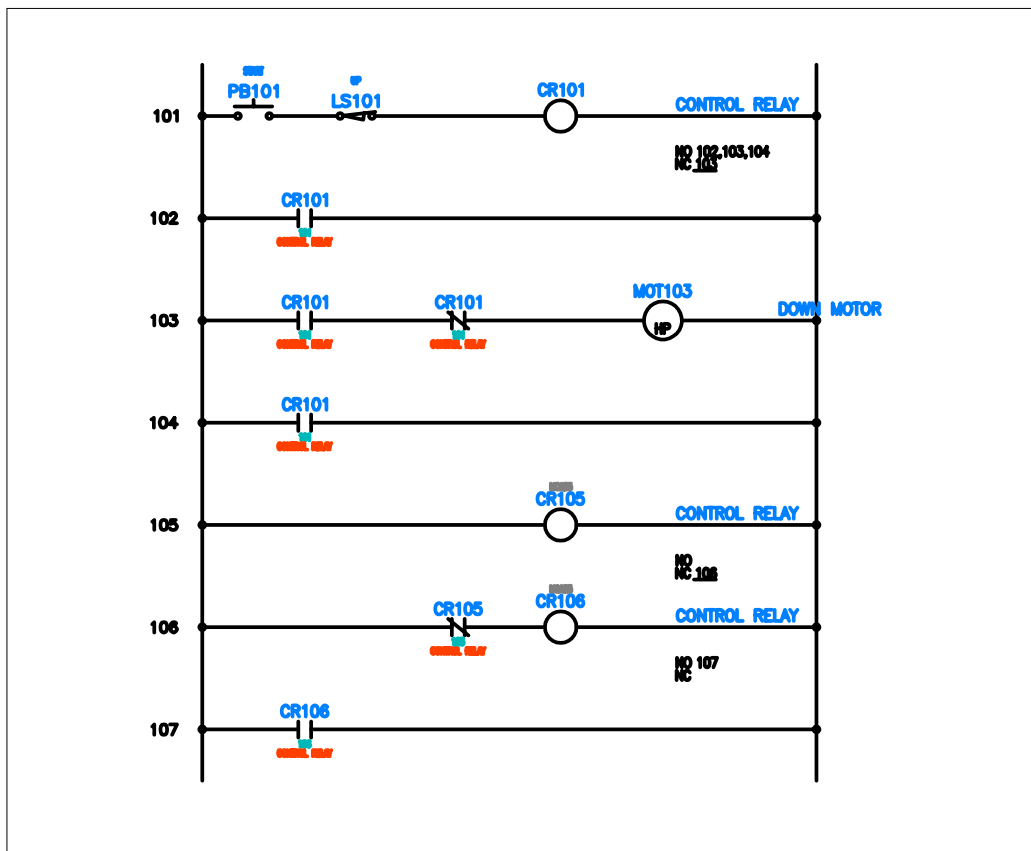

Figure 6-58 The updated drawing
- Choose the **Skip** button from the **Update Related Components?** message box; the location codes are assigned to the selected components. If the **QSAVE** message box is displayed, choose the **OK** button from it; the drawings get updated and MCAB5 is displayed on the CR105 and CR106, as shown in Figure 6-58.